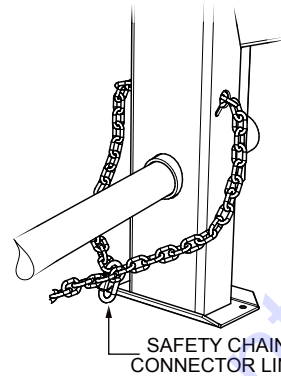

Figure 7. Crossing The Safety Chain
4. Loop (cross) the safety chain (Figure 7) and place under the tow bar. Secure the loop with the safety chain connector link.